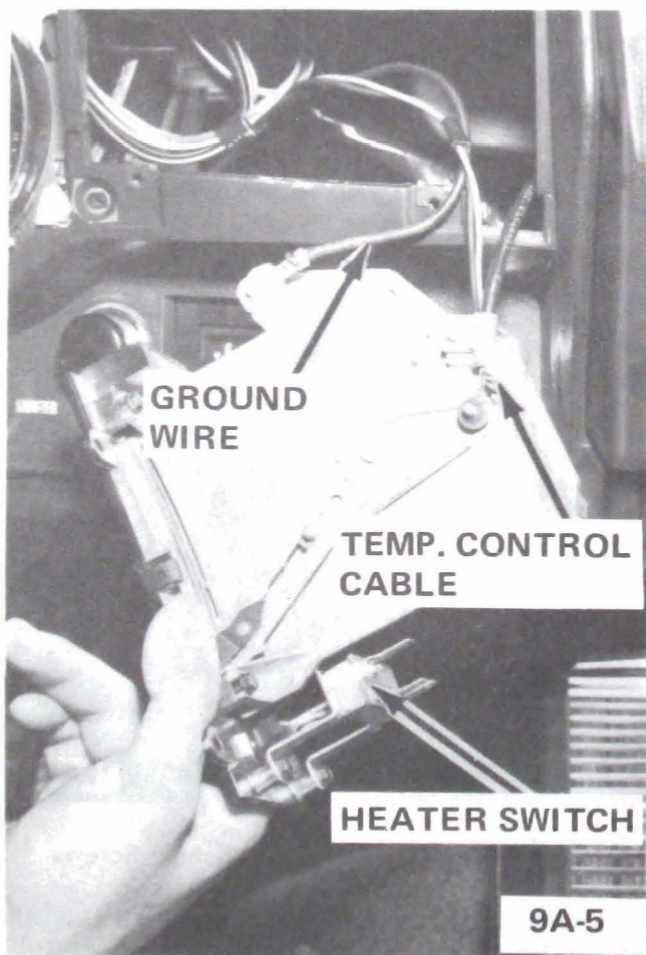

Figure 9A-11 Location of Temperature Control Cable and Ground Wire
5. Remove retaining screw and nut and disconnect cable at control and remove cable. See Figure 9A-5.